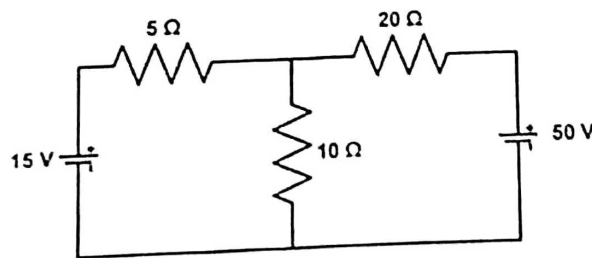

Figure 3a
- a) For the circuit shown in Figure 3a find voltage drop across various resistors using nodal analysis.